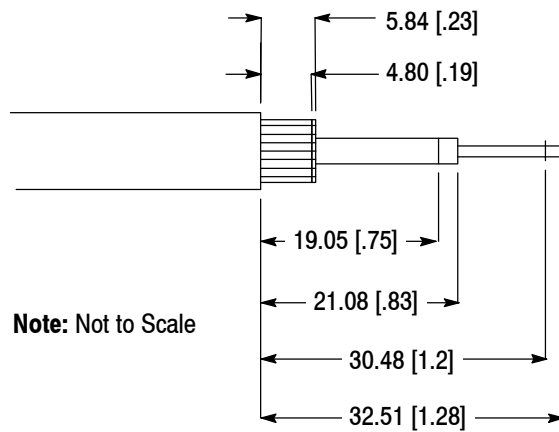

Figure 8
8. Using the combination strip tool, strip both buffered fibers according to the dimensions shown in Figure 8.